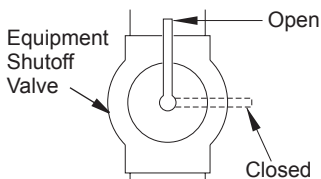

Figure 14 - Equipment Shutoff Valve
For propane/LP units, the installer must supply an external regulator. The external regulator will reduce incoming gas pressure. You must reduce incoming gas pressure to between 11" and 14" of water. If you do not reduce incoming gas pressure, heater regulator damage could occur. Install external regulator with the vent pointing down as shown in Figure 14. Pointing the vent down protects it from freezing rain or sleet.
1. Close equipment shutoff valve (see Figure 14, page 16).
1. Open equipment shutoff valve (see Figure 14).